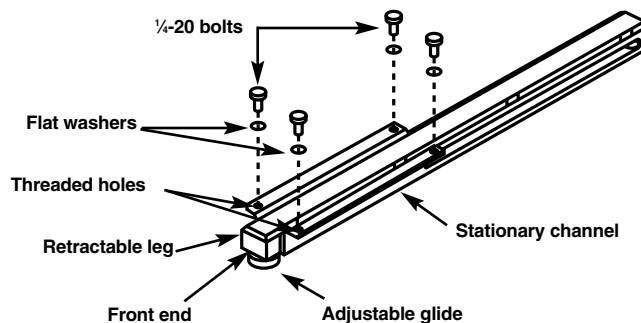
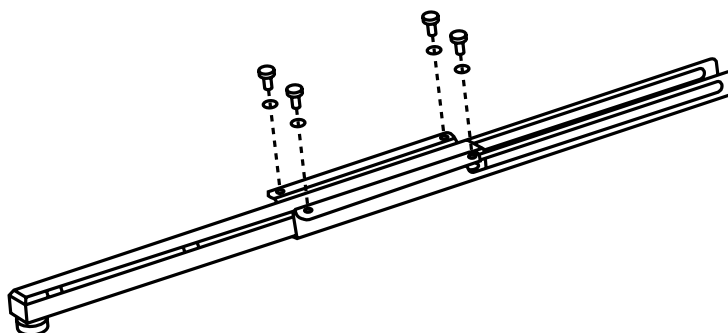

Figure 3-14. Fully retracted leg assembly.
Figure 3-15. Fully extended leg assembly.
1. Figure 3-14 shows the leg assembly when it is fully retracted. Figure 3-15 shows it fully extended. Verify that each leg travels freely from its fully retracted to fully extended position.
3. Align the four threaded holes in the stationary channel with the four holes in the enclosure's bottom (see Figures 3-14 and 3-16). From inside the enclosure, thread one $\frac{1}{4}$ -20 x $\frac{3}{4}$ " hex-head bolt with a flat washer into one threaded hole. Repeat this process for all eight threaded holes. Use a $\frac{7}{16}$ " wrench or socket to tighten each bolt.